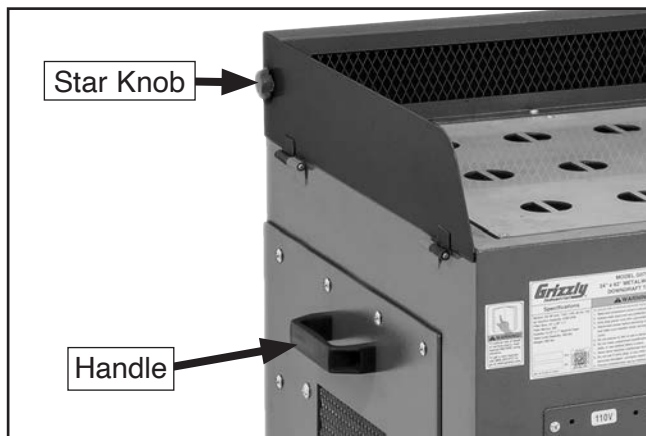

Figure 7. Star knob and handle installed.
8. Using (4) M6-1 x 15 Phillips head screws, mount handles on motor access doors, as shown in **Figure 7**.